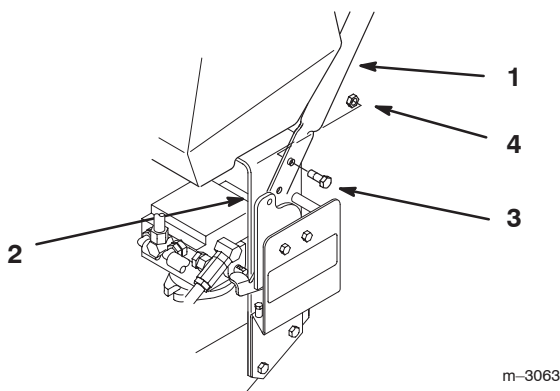

Figure 3
1. Align upper handle with mounting holes in rear frame (Fig. 3). Select high, medium or low position for lower mounting hole.
2. Secure each side with 2 flange bolts (3/8 x 1 in.) and 2 flange nuts (Fig. 3). Torque bolts to 25 ft.-lb. (34 N·m).